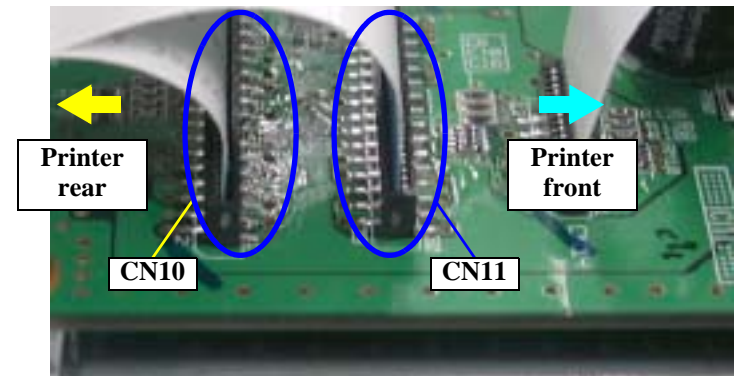

Figure 4-16. Connection Destinations of Harnesses and FFCs
- For the two wide FFCs, connect the one on the printer rear side to CN10 and the one on the front side to CN11. Refer to Figure 4-16, "Connection Destinations of Harnesses and FFCs".